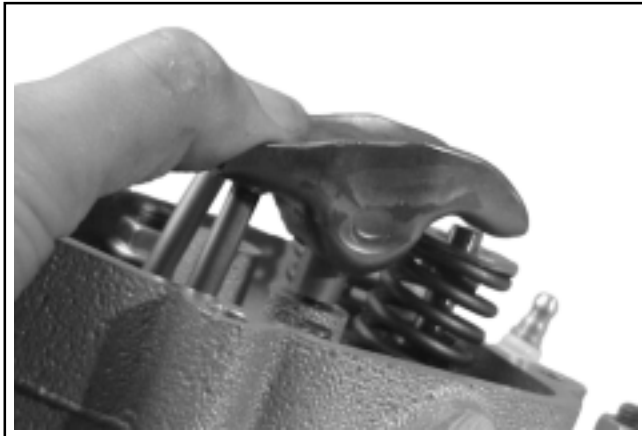

Figure 11-33. Depressing To Bottom Limit of Lifter Plunger Travel.
9. Manually depress the push rod end of the rocker arm to the bottom/limit of the lifter plunger travel. The opposite end of the rocker arm should be directly over the end of the valve. **Hold in this position for the next two steps (10, 11), do not release.** See Figure 11-33.